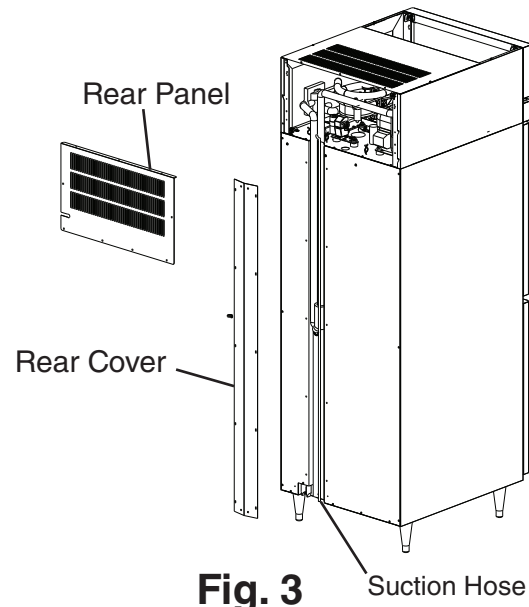

Fig. 3
- 2) Uncoil the suction hose and route to the bottom of the unit. See Fig. 3.